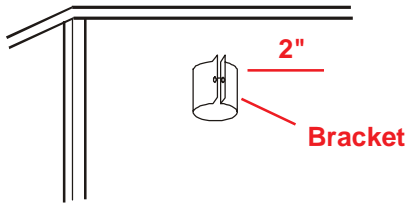

FIGURE 1
Step 1. Mount bracket 2" below edge of roof with screws provided, Figure 1.